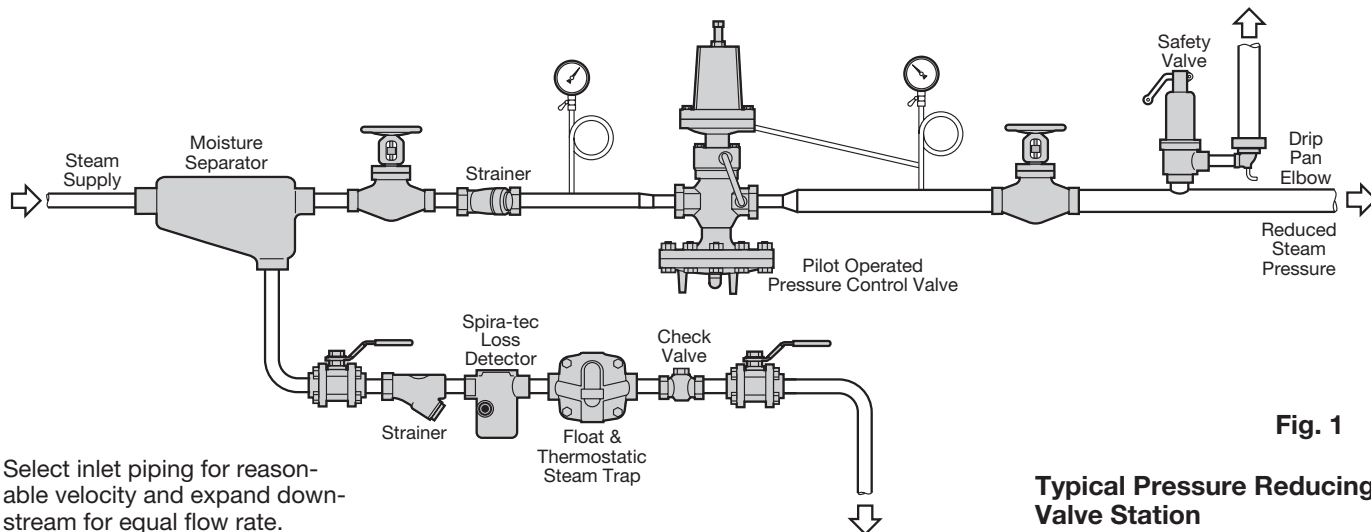

Fig. 1
1. Typical hookup sketches as shown in Figs. 1 and 2 will aid in planning a correct installation.
6. Valve should always be installed in a horizontal position. (See Figs. 1 and 2.)
2. Connect the sensing line to a straight portion of the piping 10 pipe diameters from nearest fitting downstream from the valve and approximately 1 foot from elbows, tees, valves and other restrictions. (See Figs. 1 and 2.)
1. A bypass connection, as shown in Figs. 1 and 2, is recommended so that the valve can be serviced without shutting down the equipment.
1. To insure proper operation of the valve and avoid premature wear, it is recommended that a 1/2" Spirax Sarco thermodynamic steam trap be installed on the steam supply line. (See Figs. 1 and 2.)